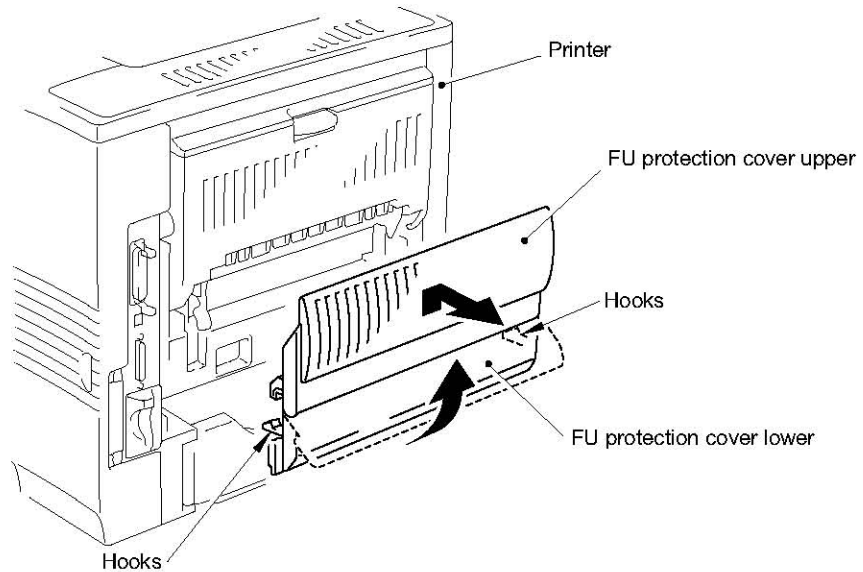

Fig. 4-19
- (2) Pull out the tray cover ASSY MP in the direction of the arrow as shown in Fig. 4-19.